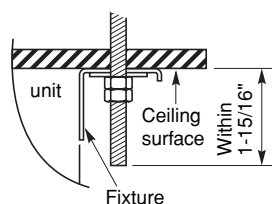
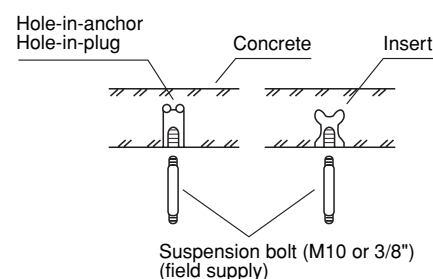

Fig. 3-94
Fig. 3-92
- (2) Drill holes at the 4 points indicated on the full-scale diagram.
- (3) Depending on the ceiling type:
- a) Insert suspension bolts as shown in Fig. 3-92.
- (4) Screw in the suspension bolts, allowing them to protrude from the ceiling as shown in Figs. 3-92 and 3-93. The distance of each exposed bolt must be of equal length within  $1-15/16$ ". (Fig. 3-94)